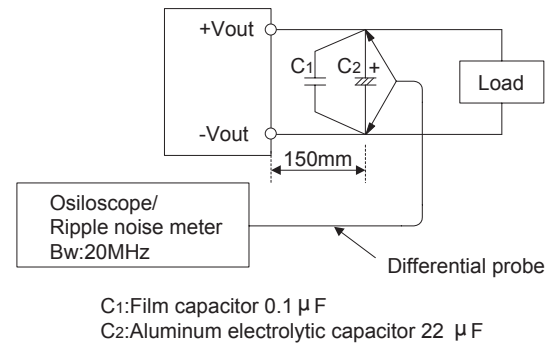

Fig.2.1 Measuring method of Ripple and Ripple Noise
- Output ripple noise may be influenced by measurement environment, measuring method fig 2.1 is recommended.